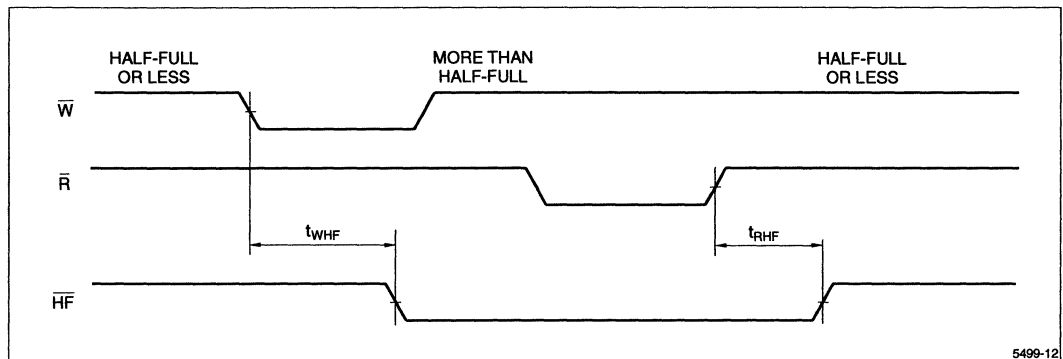

Figure 13. Half-Full Flag Timing
5. See also Note 3, Figure 13.